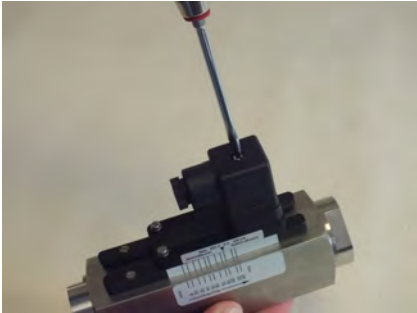

Fig. 61: Loosen female socket
1. ➤ Loosen the fixing screw of the female socket (Fig. 61) with a flat-bladed screwdriver.